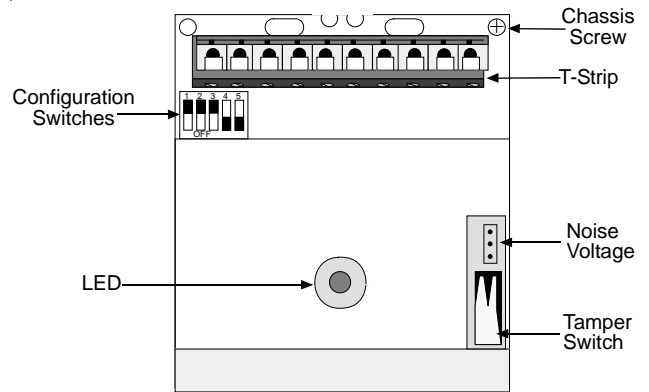

Figure 1: Circuit Board Components
- Loosen the chassis screw (see Figure 1). This holds the circuit board and mirror unit (chassis) securely in place if there is rough handling (dropping).